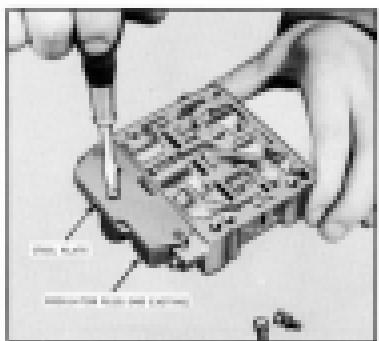

Fig. 410. Removing Steel Plate from Regulator Plug Body Casting.
6. Remove three screws holding steel cover plate to regulator plug casting and remove plate. (Fig. 410)